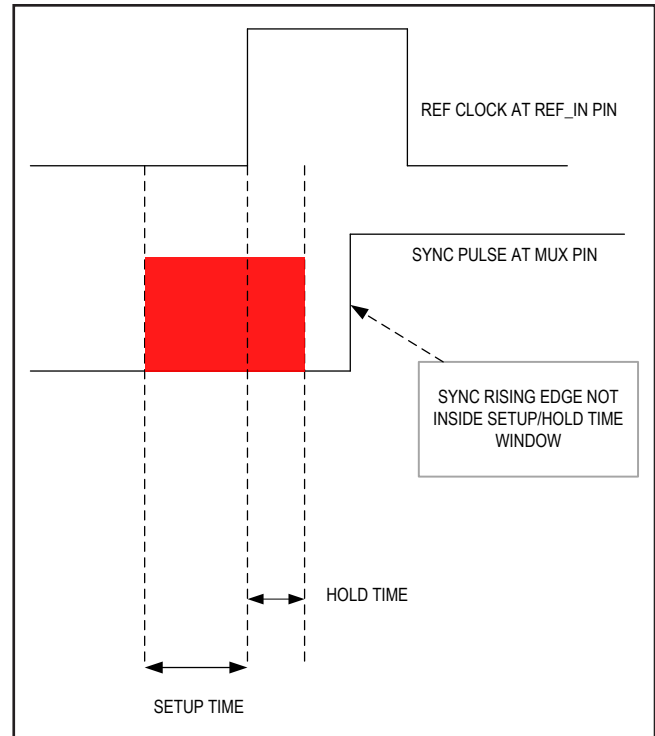

Figure 7. Setup Time/ Hold Time Window
5. At each MAX2871 REF_IN pin and MUX pin, the sync rising edge can **NOT** occur inside the setup hold time window around reference signal rising edge. Refer to Figure 7.